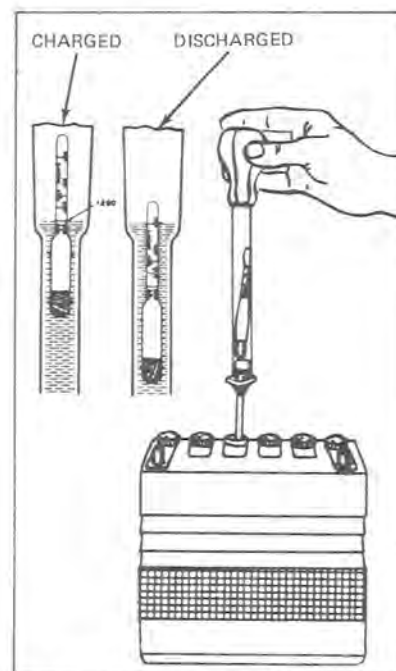

Figure 7-22
4. Keep the battery nearly fully charged at all times. Check the state of charge at frequent intervals by making specific gravity readings with a battery hydrometer (see Figure 7-22). Note that a hydrometer reading is not accurate if water has been added recently, due to the fact that the water may not be mixed with the electrolyte.